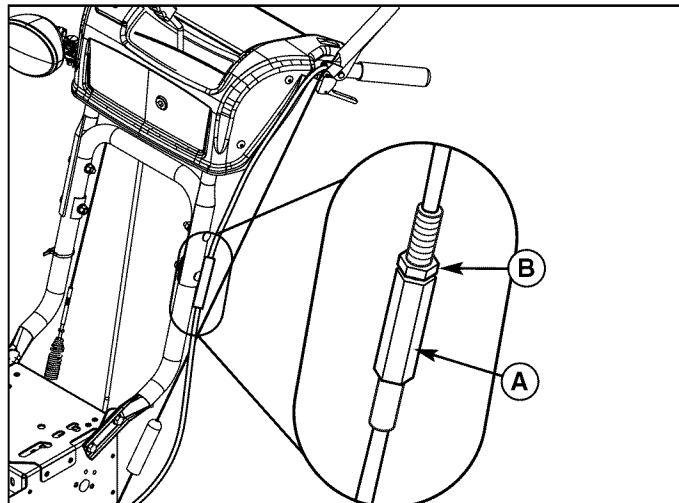
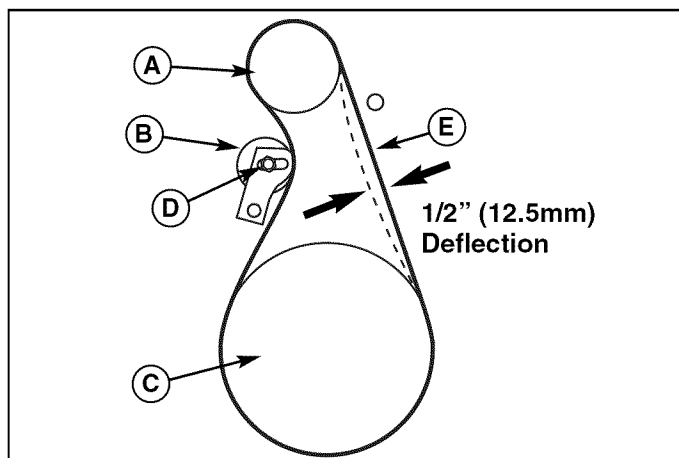

Figure 20. Cable Adjustment
Figure 22. Auger Belt Deflection
2. Loosen the jam nut (B, Figure 20).
3. Turn the adjustment nut (A) to lengthen or shorten the cable. The cable should be tightened just until all slack is removed from the lever, however it must not engage the Easy Turn™ release without depressing the control lever.
3. Loosen nut (D, Figure 20) on auger idler pulley (B) and move auger idler pulley towards belt about 1/8 inch (3mm).
4. Tighten nut (D).
5. Engage auger drive clutch. Check tension on belt (opposite idler pulley). Belt should deflect about 1/2 inch (12.5 mm) with moderate pressure see Figure 22). You may have to move the idler pulley more than once to obtain the correct tension.